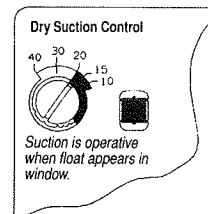

FIGURE 3
**5. SUCTION SOURCE** - Increase suction source until the orange float appears in the suction control indicator window. The setting of the suction control dial determines the approximate amount of suction imposed regardless of the amount of source suction - as long as the orange float appears in the indicator window. Figure 3 shows the suction control dial set at -20 cm of water and the float in the indicator window.